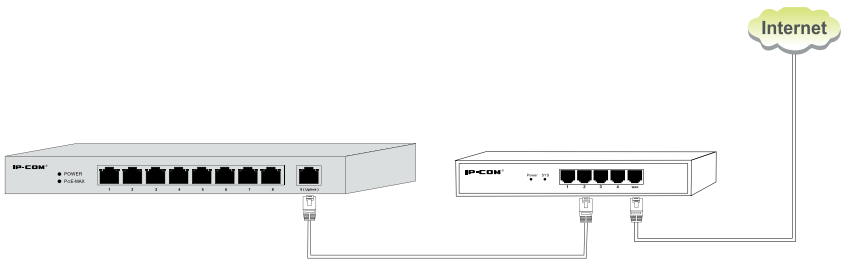

Figure 3-1 Connect an upstream network device
Step 1: Use an Ethernet cable to connect one upstream network device (such as another switch or a router) to the Uplink port on the switch, shown as Figure 3-1.